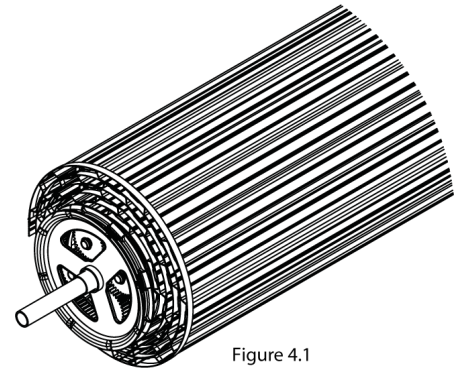

Figure 4.1
- Place the door below the hanging bracket in the correct orientation so that the door will roll down the front of the opening as shown in Figure 4.1. **Note:** the manufacturer's packaging should still be intact at this point.